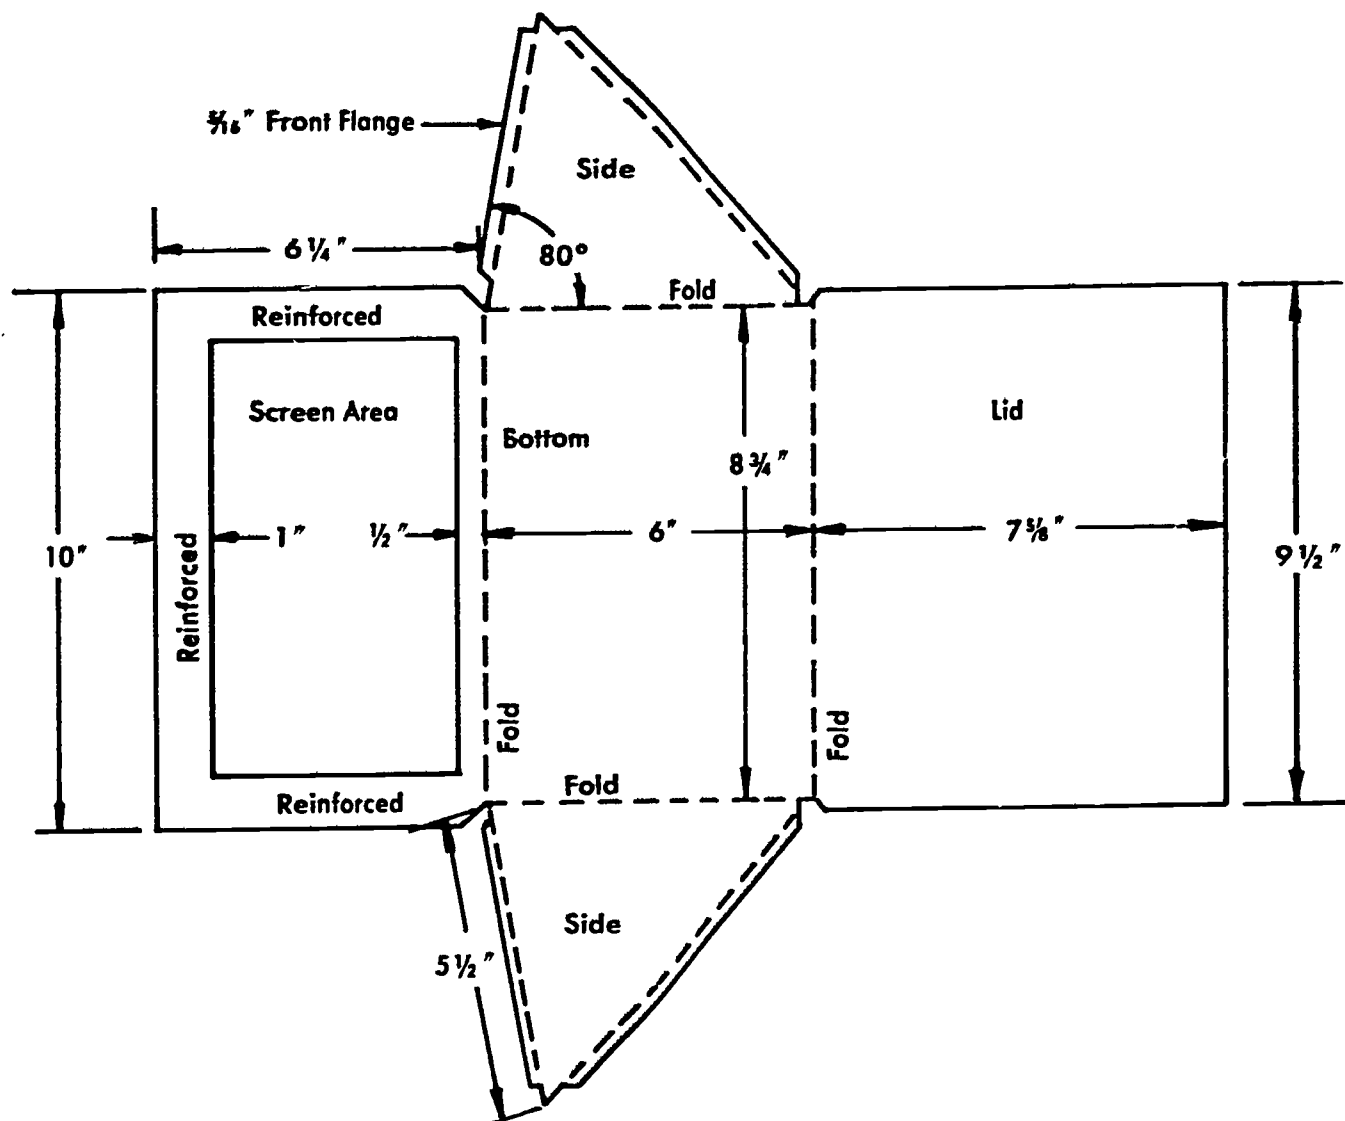

Fig. 61-2, Main Pattern
Procedures (Study Figs. 61-2 through 8)
1. Using the main pattern template, trace the layout onto the chipboard. See Fig. 61-2.